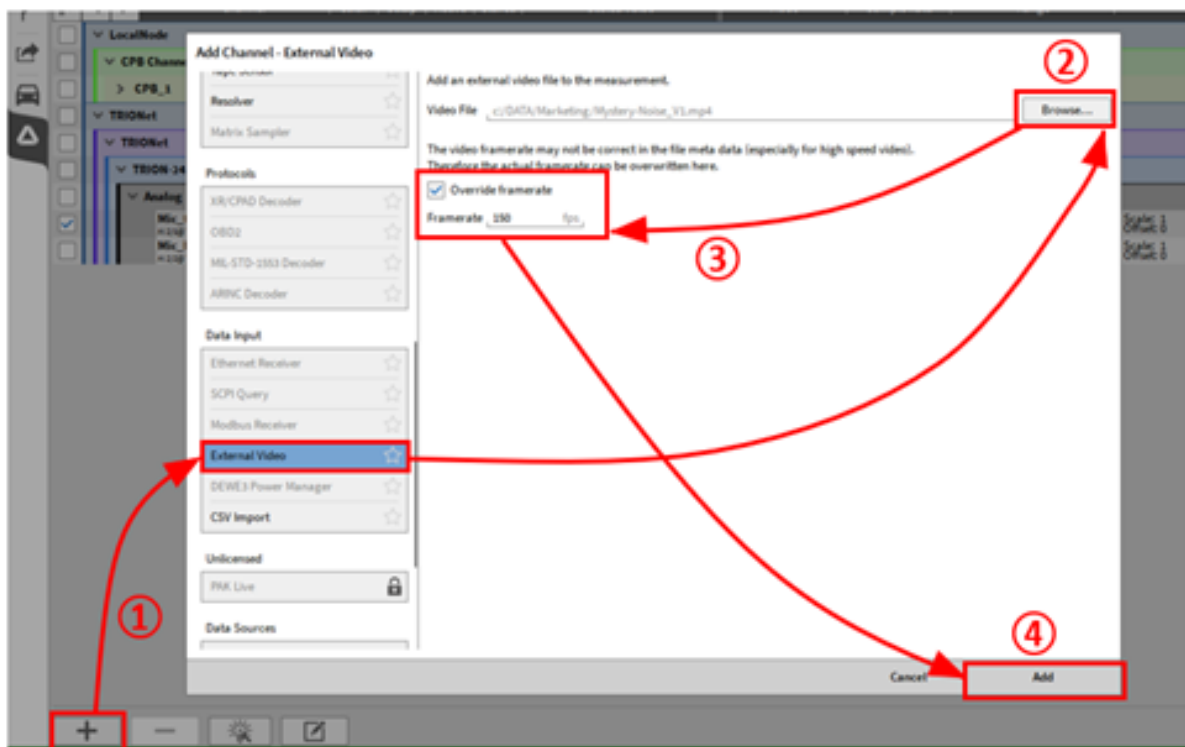

Fig. 7.163: Procedure to load an external video
- Go to the Channel List, press the + Button and select *External Video* (see ① in Fig. 7.163)
- Click on *Browse...* to select the video file (see ② in Fig. 7.163)
- Enter the native recording frame rate of the video (see ③ in Fig. 7.163)
- Press *Add* to create a new video channel (see ④ in Fig. 7.163)